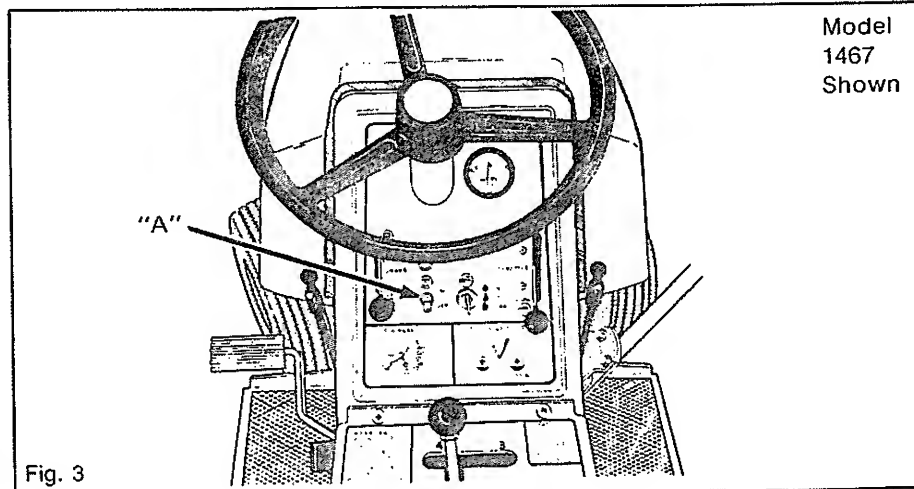

Fig. 3
1. THE STARTER WILL OPERATE ONLY WHEN THE PTO SWITCH (A) Fig. 3 IS IN "OFF" POSITION, AND BRAKE OR CLUTCH PEDAL IS DEPRESSED.